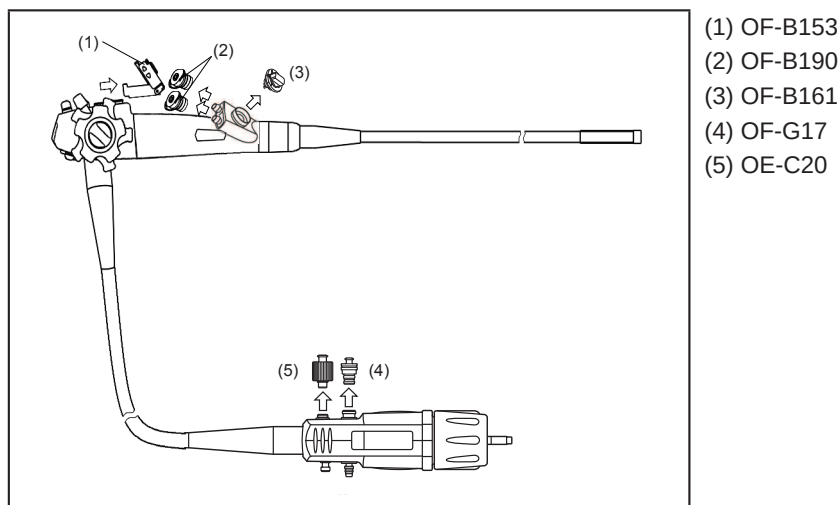

Figure 1.4.36
- 2) Detach the inlet seal (OF-B190), cleaning adapters (OE-C20, OF-B153, and OF-G17), and suction channel selector (OF-B161) from the endoscope. Open the cap of OF-B190. (see Figure 1.4.36, p99)
- 12) Detach OF-B190, OE-C20, OF-B153, OF-B161, and OF-G17 from the endoscope. (see Figure 1.4.36, p99)